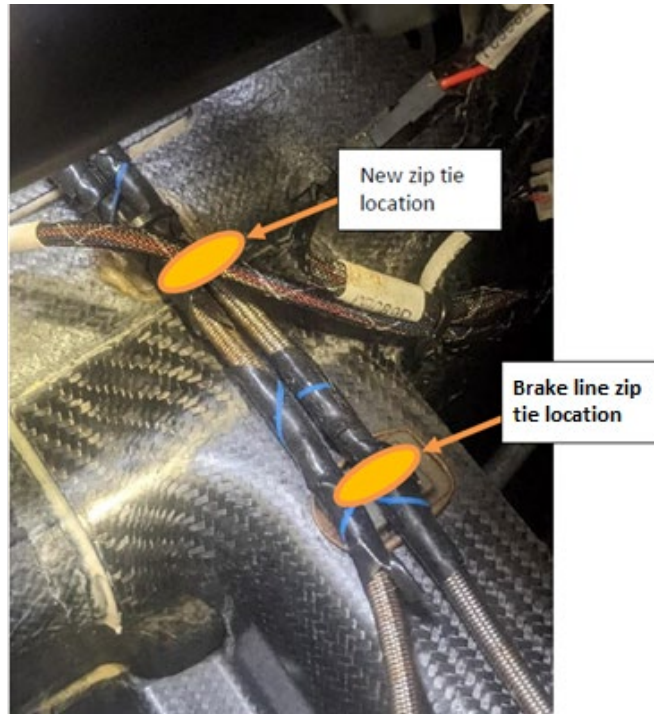

Figure 6. Trim wires at reed switches
- d. Remove sleeving from the actuator wire bundle and pull the wires out of the bundle that leads to the magnetic reed switches located on the connector body. Note: The reed switch wires are encased in larger black insulation. Trim the reed switch wires where they exit the reed switches as shown in **Figure 6**. Discard these trimmed wires. Note: the wires that were located in connector positions 1 and 8, the red and black wires that enter the actuator body and were marked in step c, must not be trimmed or altered in any way.